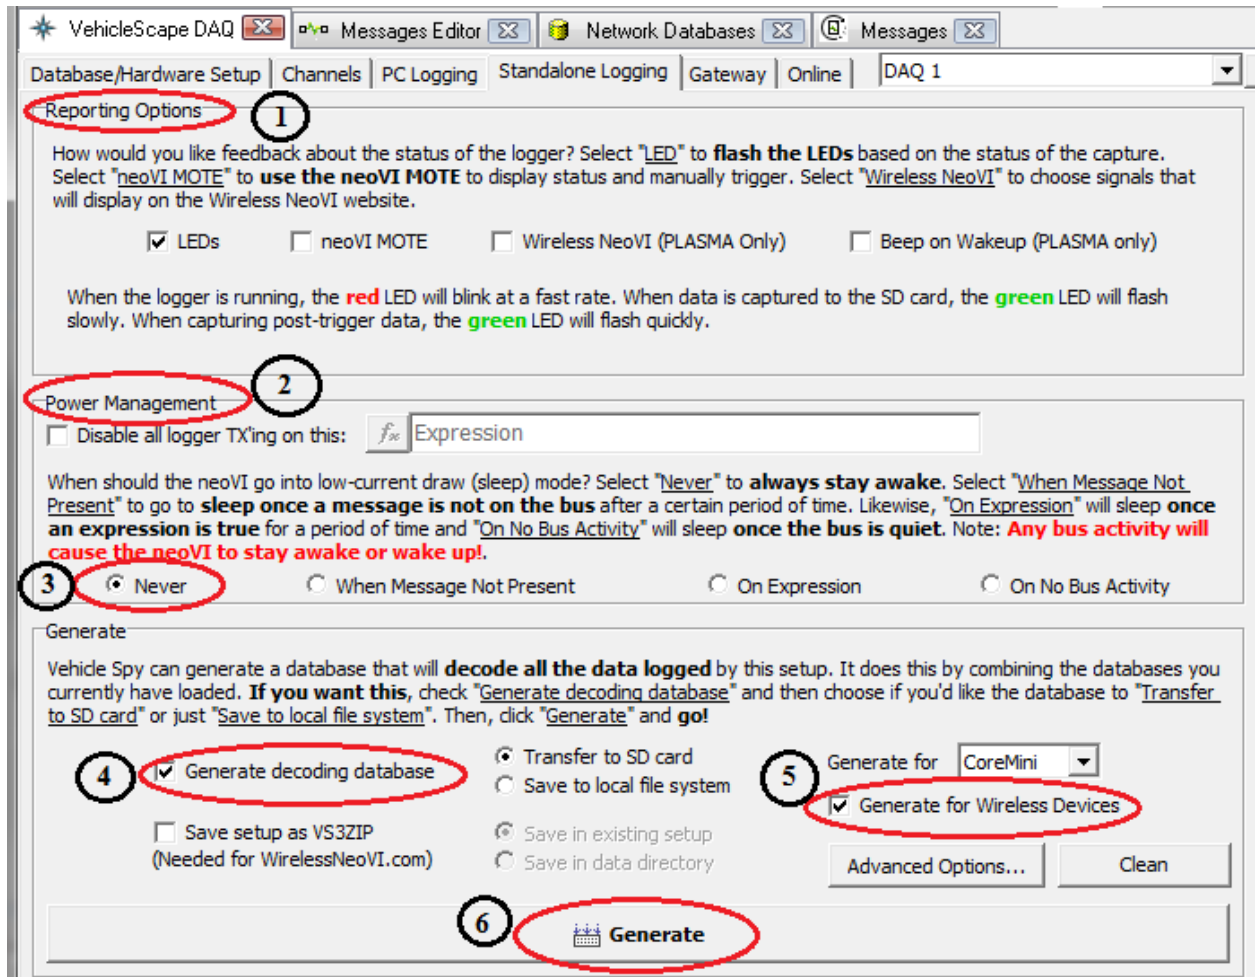

Figure 16.c: Configuration for Reporting and Generation
- Collection upload (Figure 16.b (9)): Check box of 3G and WiFi option as per availability or select both.
- Reporting option (Figure 16.c (1)): Check box of ‘LED’ option. It will give process status on LEDs of device. Also check box of ‘Beep on wakeup (PLASMA only)’ option. So it will give beep when device will wake up.
- Power management (Figure 16.c (2)): Select ‘Never’ option (Figure 16.c (3)). So it will never go in sleep mode.
- Generate (Figure 16.c (4)): Select ‘Generate decoding database’, ‘Transfer to SD card’ and check box of ‘generate for wireless device’ (Figure 16.c (5))